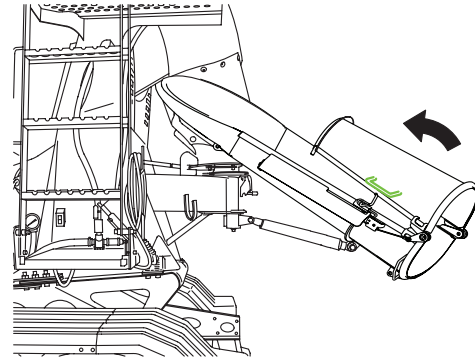

Figure 117
2. Slowly raise the chute into stored position (Figure 117).